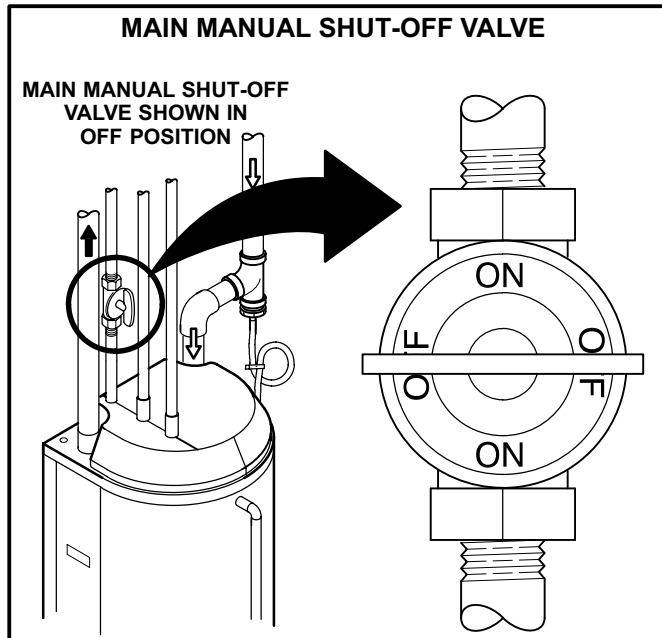

FIGURE 23
- 5 - Turn knob on main manual shut-off valve (figure 23) 90° counterclockwise to **ON**. Do not force.